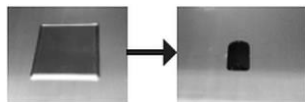

Fig. 20
2. Press the control knob (4) and keep it pressed.
3. At the same time keep pressing the Piezo ignition button (5).
5. Slide the sight glass cover (Fig. 20) and check the ignition burner.